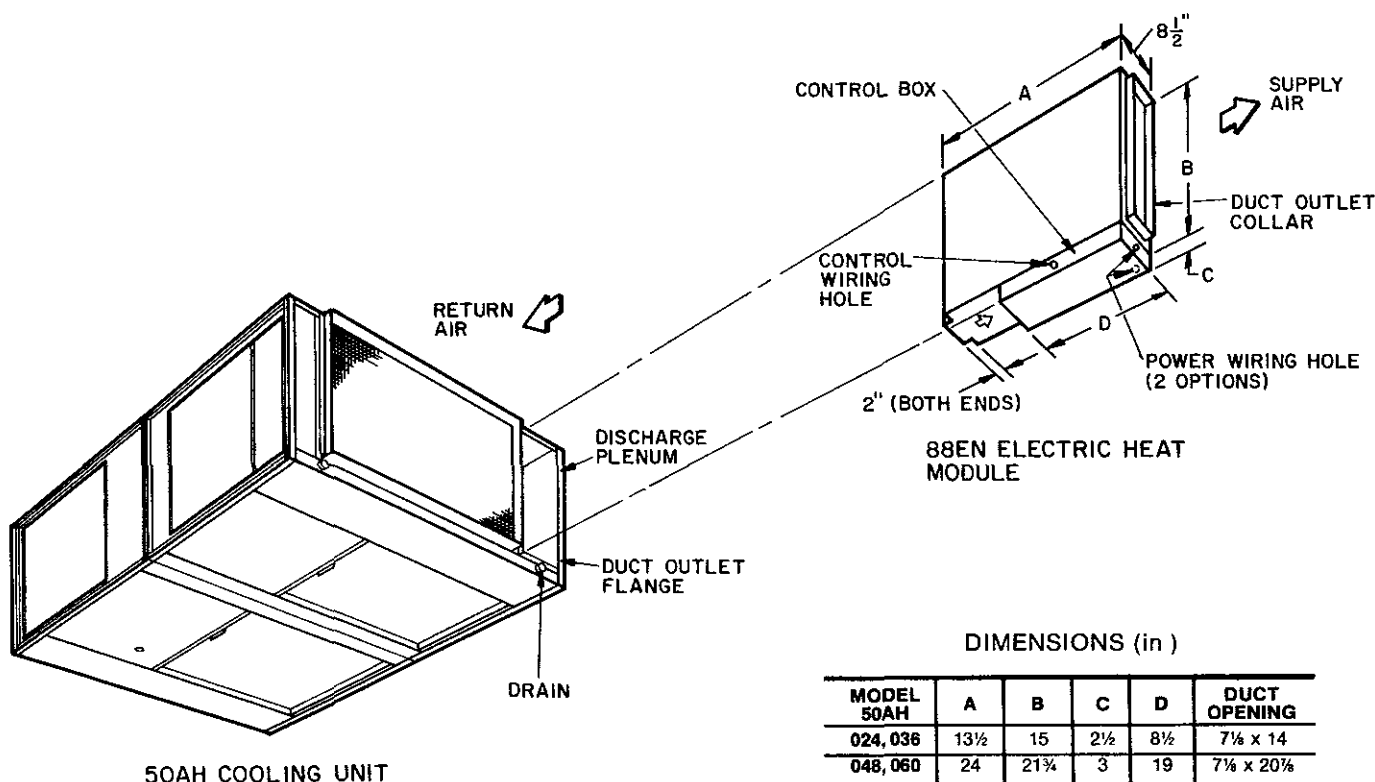

Fig. 1 — Accessory Electric Heater Installation
Model 88EN electric heater packages are designed to mount on the evaporator discharge flange of Model 50AH single-package cooling units. See Fig. 1 for accessory heater positioning and dimensions. The heater control box is accessible from the bottom for maintenance or service. See Table 1 for electric heater data and usage.
Step 1 — Install Accessory Heater — Refer to Fig. 1